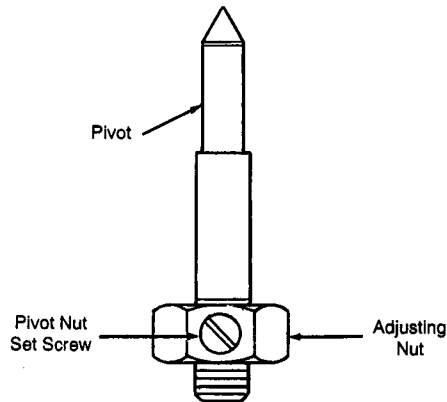

Figure 5. Pivot Assembly
1. See Figure 5. Loosen the Pivot Nut Set Screw and turn the Adjusting Nut counterclockwise two turns as viewed from below.